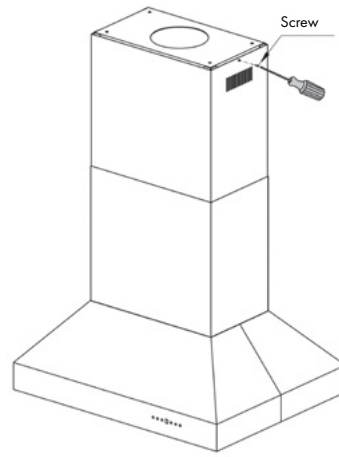

Figure 5
4. Slide top chimney piece up over the mounting bracket on the ceiling and secure it in place with the provided screws. *Figure 5*